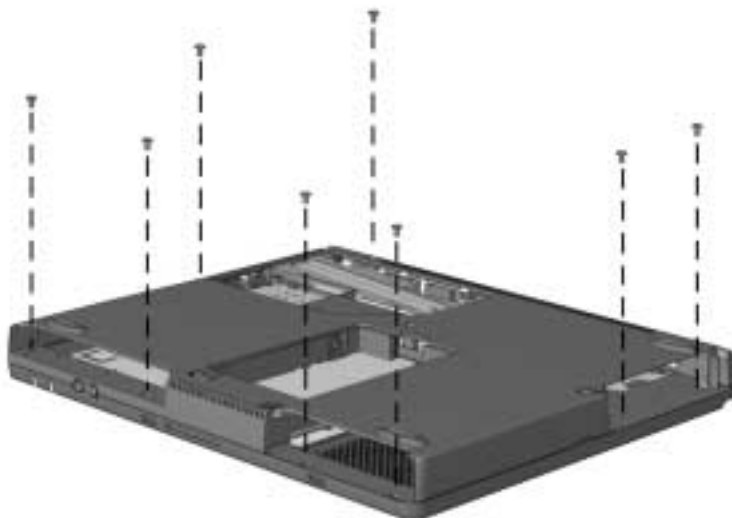

Figure 5-19. Removing the Top Cover Screws
6. Remove the eight screws from the bottom of the computer that secure the top cover to the base enclosure (Figure 5-19).